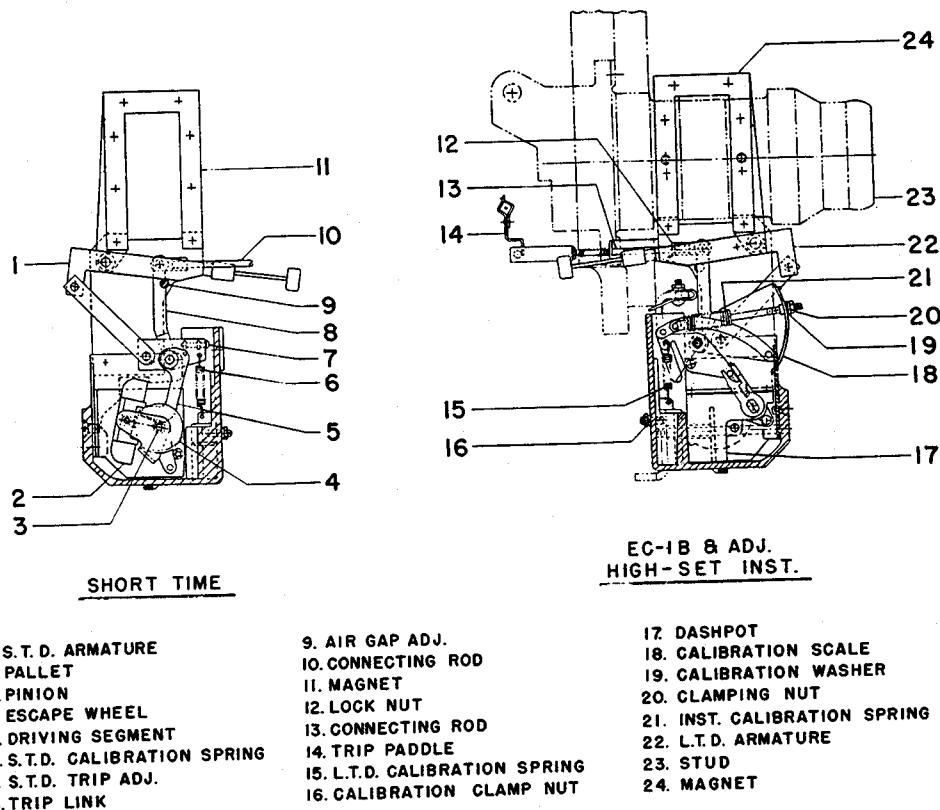

Fig. 26 (0133C9022) Direct-acting tripping device EC-1B
DEVICE EC-1B (Fig. 26)**
The EC-1B is adjustable on high-set instantaneous tripping. The adjustable setting mechanism of the EC-1B is shown in Fig. 26.
(Fig. 26)
**LONG TIME DELAY TRIPPING (Fig. 26)**
**INSTANTANEOUS TRIPPING (Fig. 26)**
If the characteristic of the device is low-set, adjustable instantaneous, a link is installed in place of spring (21) and the instantaneous calibration spring is located where spring (15) is shown in Fig. 26. Dashpot (17) is omitted from assembly.
**REPLACEMENT (Fig. 26)**
1. Disconnect trip paddle (14) and connecting rod (10) by taking out cotter pin and removing coupling pin.
2. Remove clamp (19) by loosening locking nut and unscrewing slotted stud.
3. Remove stud (23).
4. Remove two screws fastening magnet (11) to lower stud.
**ADJUSTMENTS (Fig. 26)**